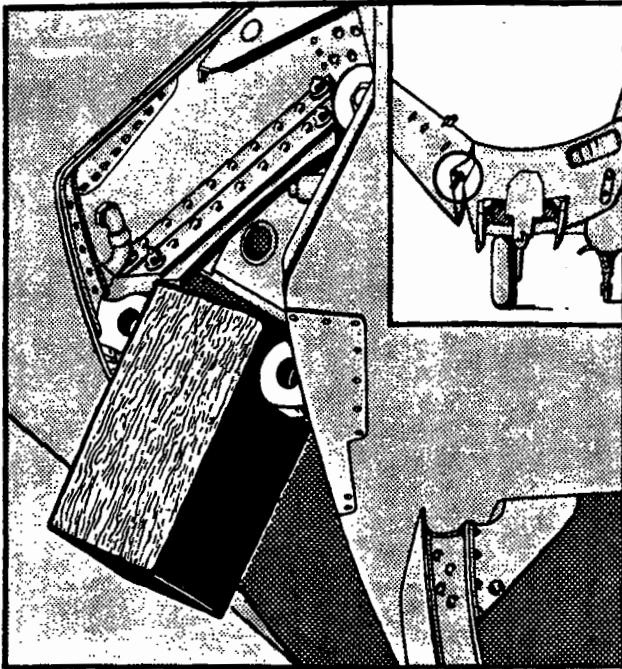

Figure 4-7. Hardwood Block.
e. Lower the panel from the folded position to approximately a 45° position, and insert a hardwood block about 4 x 6 x 8 inches between the outer panel and the center section at the lower hinge fittings. (See figure 4-7.)